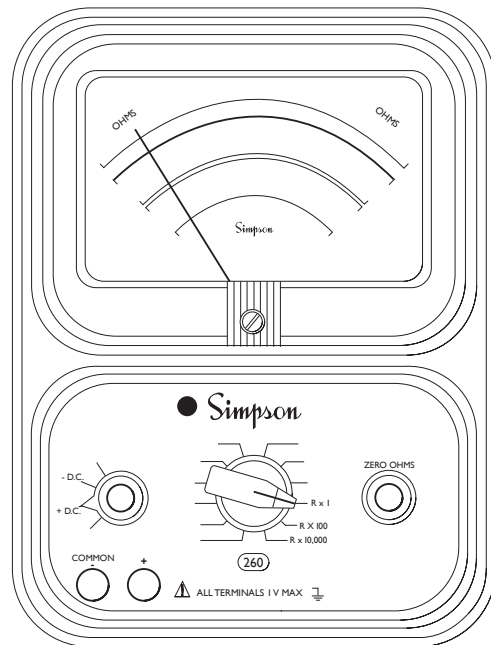

Figure 4-14. Jacks and Switch Positions for Continuity Tests
- Set the FUNCTION switch to the “Ω”. Insert the black test lead into the COMMON (-) and the red test lead into the (+) jacks, (Figure 4-14).